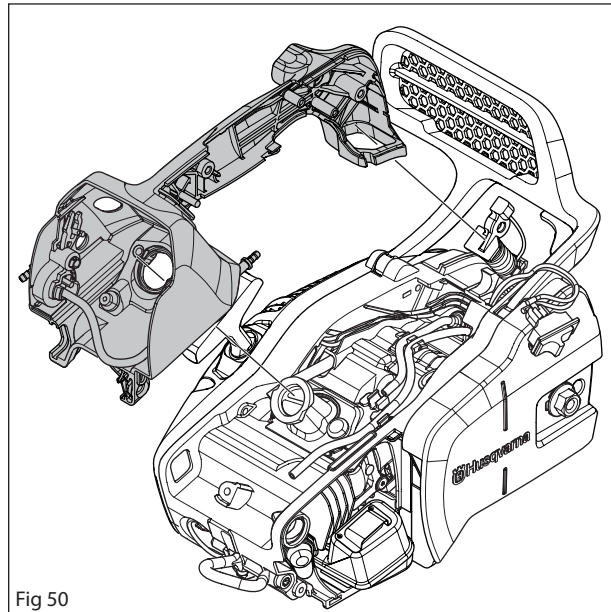

Fig 50
11. Press down the inlet pipe through the right handle and pull up the right handle. Disconnect all the hoses. See Figure 50.